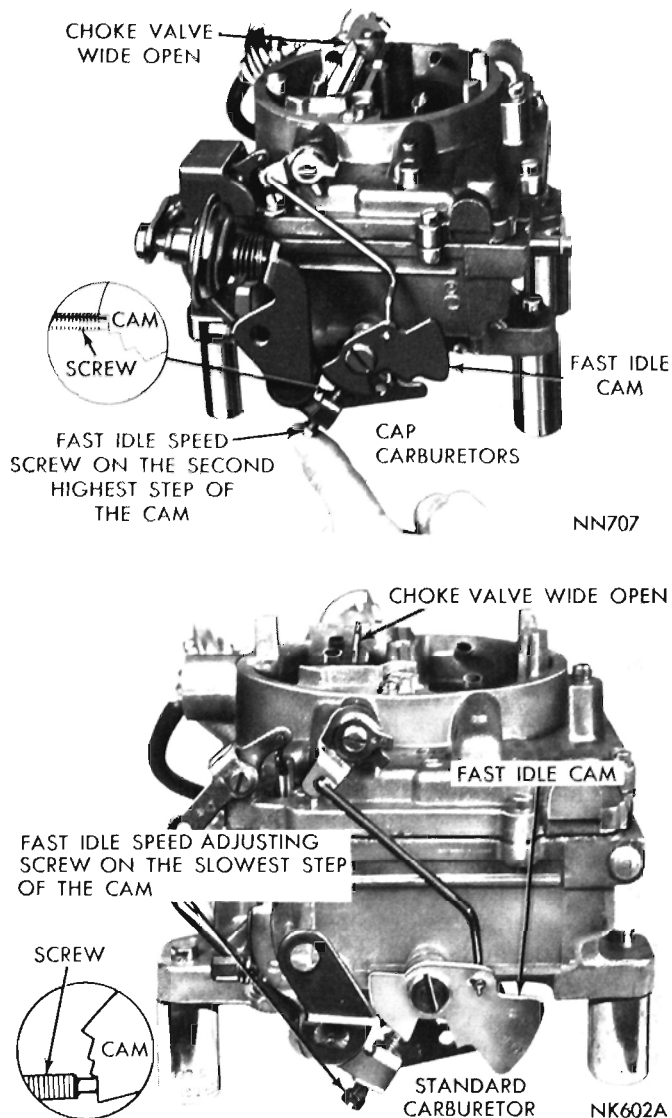

Fig. 21—Fast Idle Speed Adjustment (on the Vehicle)
- (1) With engine running and transmission in neutral position, open throttle slightly.
- (2) **On Standard carburetors**, close the choke valve about 20 degrees, then allow throttle to close. Return choke valve to the open position. The fast idle speed adjusting screw should contact the slowest speed step on the fast idle cam (Fig. 21.)
- (3) **On CAP carburetors**, open the throttle until the fast idle adjusting screw can be positioned on the second highest step of the cam (Fig. 21). **The air cleaner must be installed while measuring the engine speed.**
- (4) With the engine warmed up to the normal operating temperature, turn the fast idle speed adjusting screw in or out to secure 700 rpm (Standard Carburetors) or 1500 rpm (CAP carburetors).* (Refer to Specifications.) **Reposition the cam and throttle after every fast idle speed screw adjustment to apply normal throttle closing torque.**